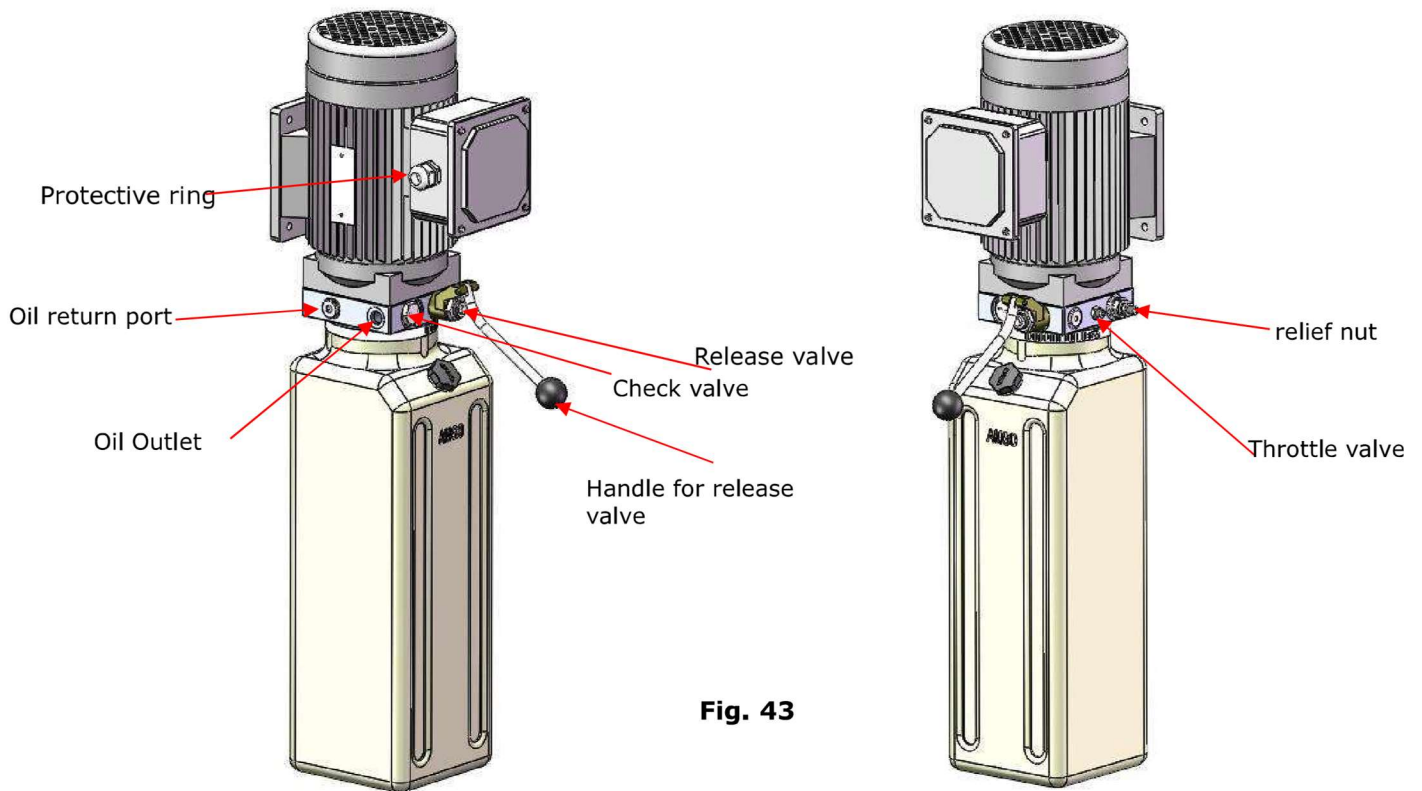

Fig. 43
b. Manual power unit, 380V/50Hz, 3 phase (See Fig. 43)